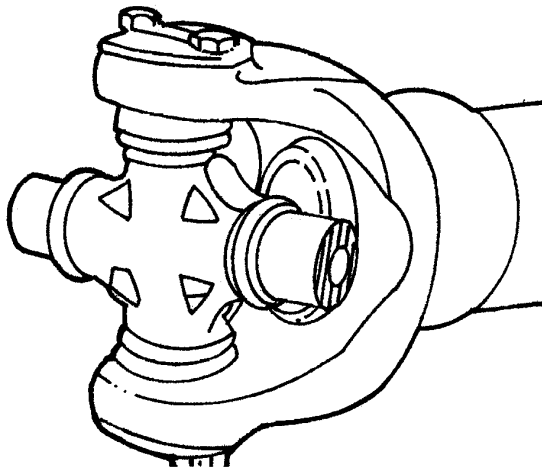

Figure 27 Move Cross on Propeller Shaft
3. Move the cross on the propeller shaft so that one journal of the cross is pointed outwards as far as it will go by hand (Figure 27).